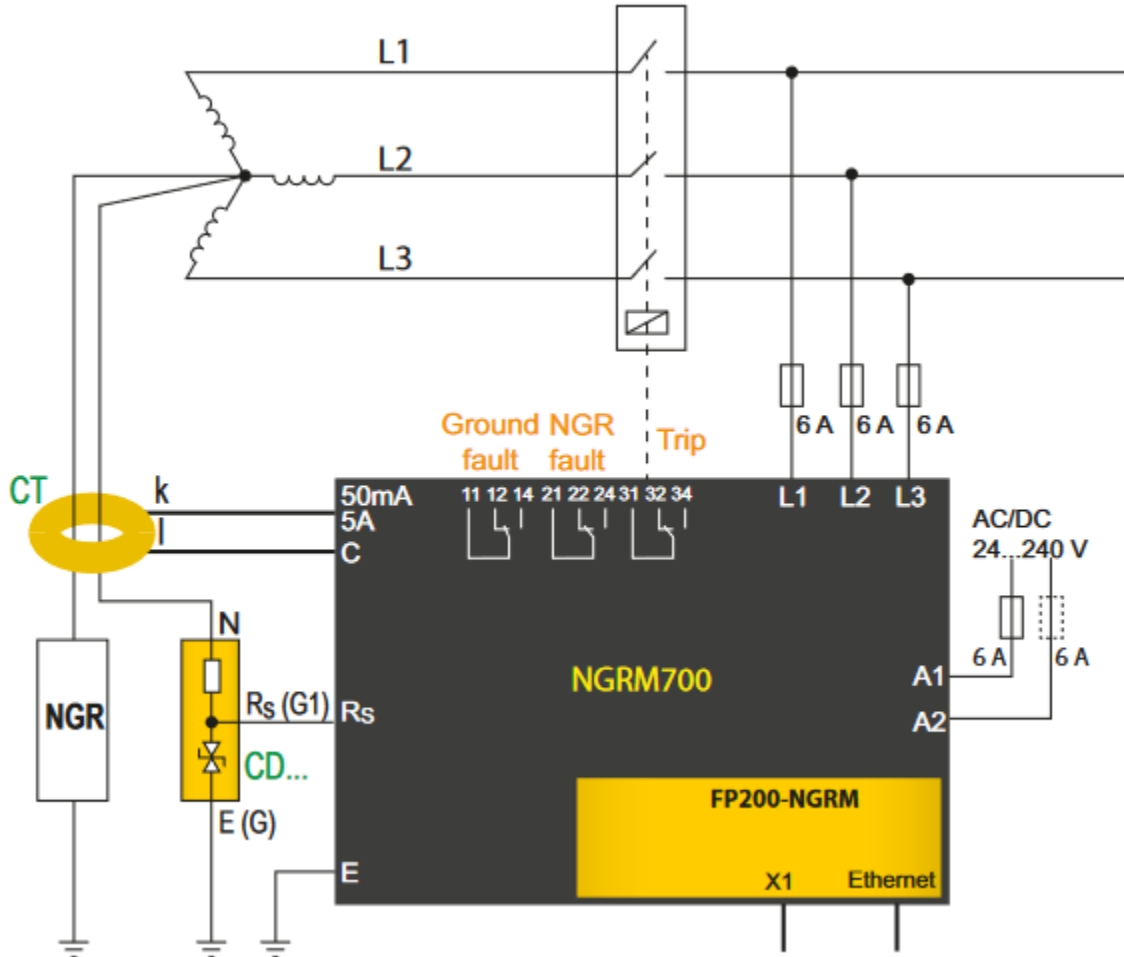

Figure 1: Neutral grounding resistor (NGR) with components coupling device (CD), CT and NGRM700 NGR monitor.
Current transformer (CT) based ground-fault protection relies on the system being effectively grounded. Therefore, it makes complete sense to monitor the continuity of the resistor. Resistance grounding has been used in North America since the 60s and is often used to provide better up-time over solidly grounded systems. Any interruption of the path between the generator/transformer neutral and ground can render the ground-fault monitoring and protection devices inoperable. This was simple justification for improvement. In a planned spring shut down, the facility hired local electrical contracting company, Dynamo Electric, to install a Bender NGRM700 monitoring device and components shown in Figure 1.